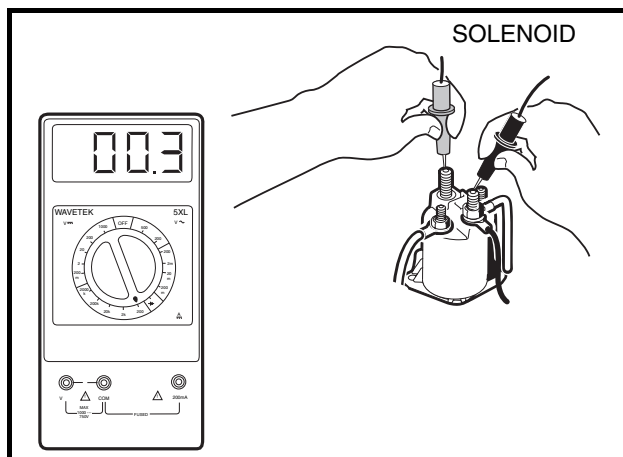

Figure 11-16 Solenoid Continuity Test
5. Set the multimeter to 200 ohms. Connect the red (+) probe to one of the large posts of the solenoid and connect the black (-) probe to the other large post (**Figure 11-16, Page 11-19**).